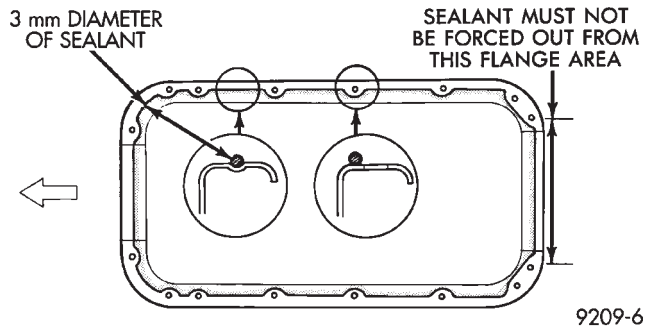

Fig. 3 Oil Pan Sealing
(1) Apply sealant as shown in (Fig. 3).